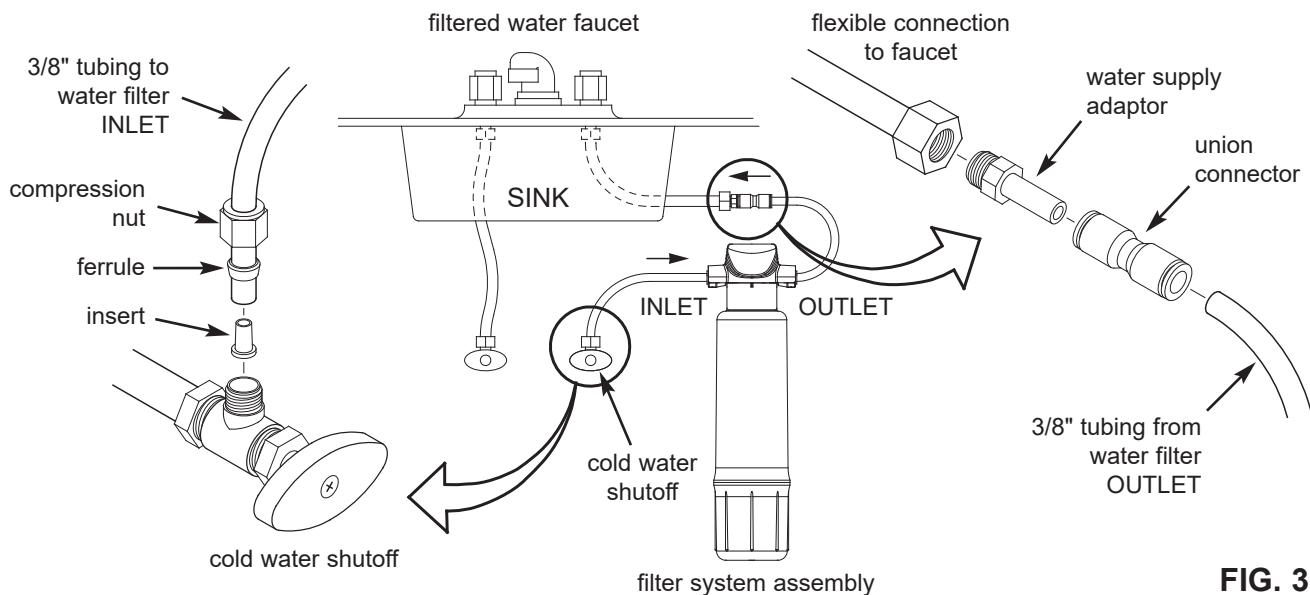

FIG. 3
Check and comply with local plumbing codes as you plan, then install the fittings to connect the water filtration system into the sink's cold water supply line. Fittings (9/16-24 thread) and 3/8" O.D. tubing are included to provide connections to and from the water filtration system's inlet and outlet. A typical connection using the included water supply fittings is shown in Figure 3.
3. Locate one piece of the supplied 3/8" tubing, plus the supplied compression nut, ferrule and tubing insert (See Fig. 3). Assemble the parts onto the tube, as shown in Figure 3, and thread the compression nut onto the cold water shutoff. Tighten to provide a leak-tight connection.
4. Locate the water supply adaptor (supplied) and install it into the nut on the supply line which you disconnected in Step 2. Refer to Figure 3.
5. Press the stem of the water supply adaptor into one end of the supplied union connector (See Figure 3). Be sure to push the stem all the way in.